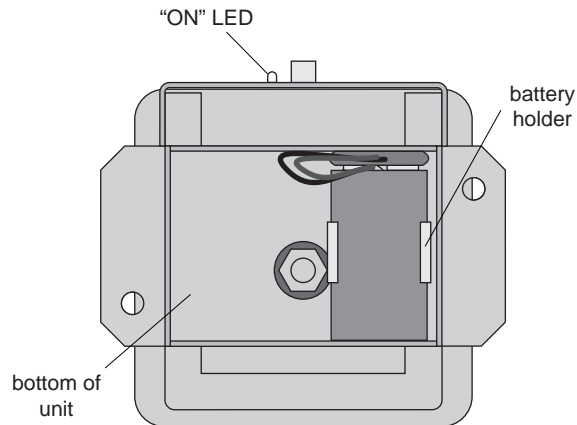

Figure 1: Battery Installation
- Turn the unit on its side and install the 9-volt battery in the bottom of the unit. See Figure 1.